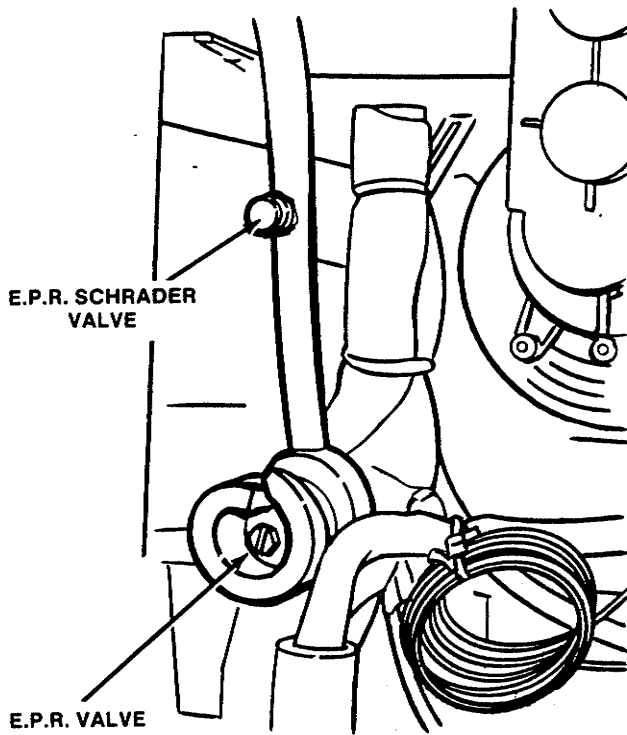

Figure 42. E.P.R. Valve and Lines
1. Position the E.P.R. valve, with heat sink, so the hopper evaporator outlet line and the line leading to the low side of the main system correspond with the proper valve ports (Fig. 42).